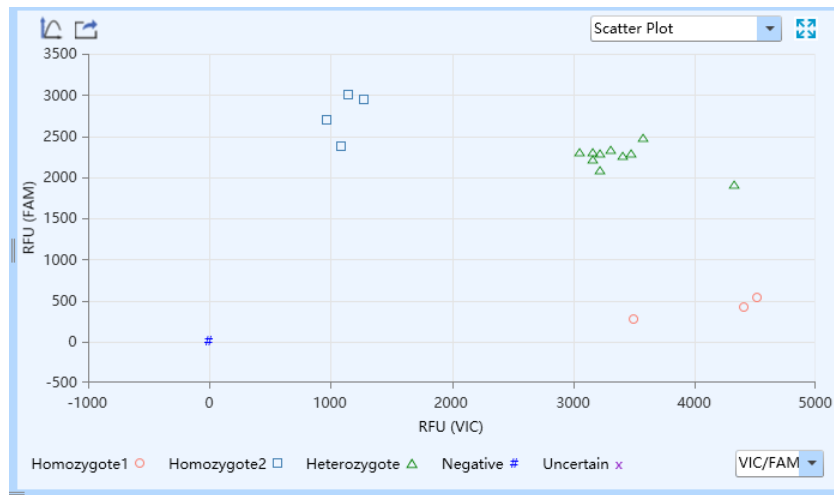

Figure D-16.1. Genotyping Analysis Interface - Scatter Plot Functional Module
I. Scatter Plot: display the end point fluorescence distribution of two dyes, as shown in figure D-16.1.